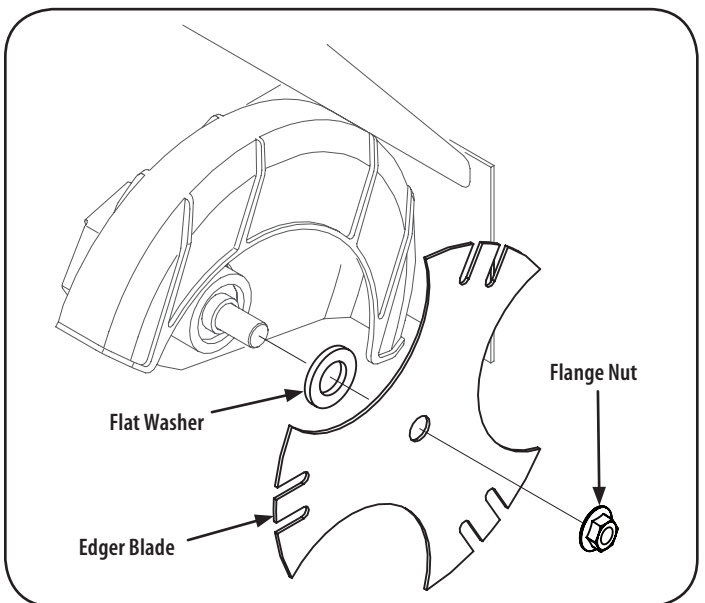

Figure 14
2. Use two wrenches (one wrench to prevent the hex bolt head from spinning and the other to remove the flange nut) to remove the edger blade. Refer to Figure 14.